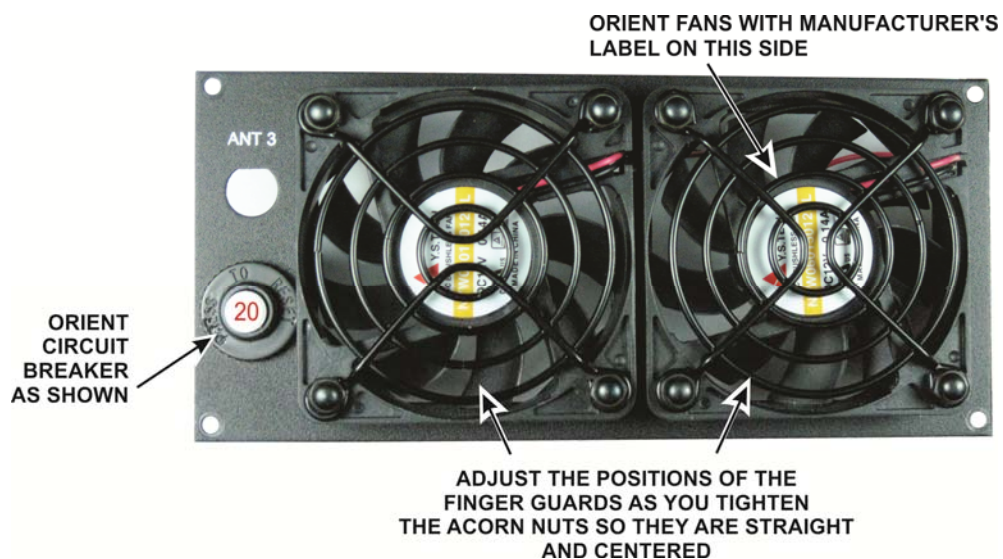

Figure 13, Completed Fan Panel from Rear.
□ Install the 20A circuit breaker in the small hole with the pushbutton on the same side as the fans as shown in Figure 13.